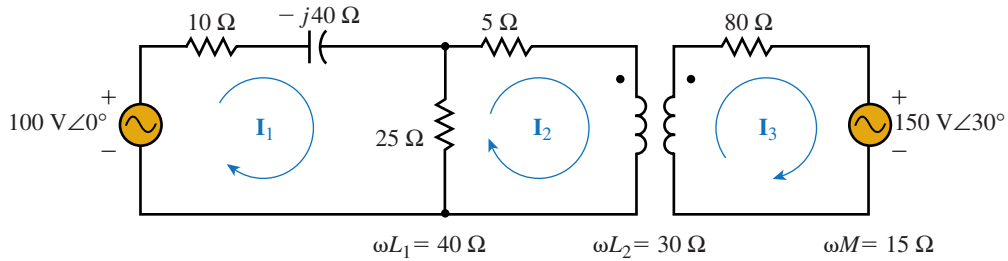

FIGURE 24-81
40. Write mesh equations for the circuit of Figure 24-81.